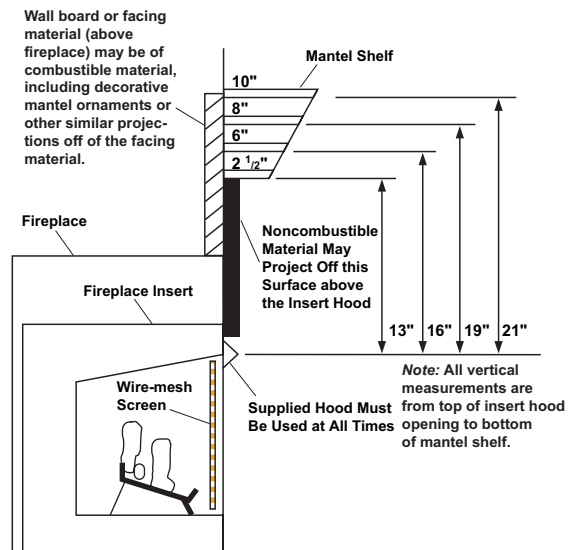

Figure 12 - Minimum Mantel Clearances for Fireplace Insert Installation
- Clearances from side of fireplace cabinet to any combustible material and wall should follow diagram in Figure 12, page 12.
If there is a mantel above masonry fireplace, you must meet minimum clearance between mantel shelf and top of fireplace opening (see Figure 12).
Installation of this fireplace insert involves installing fireplace insert into wood burning fireplace. If using a mantel above the fireplace, you must follow the clearances shown in Figure 12, page 10. Follow instructions below to install fireplace insert in this manner.